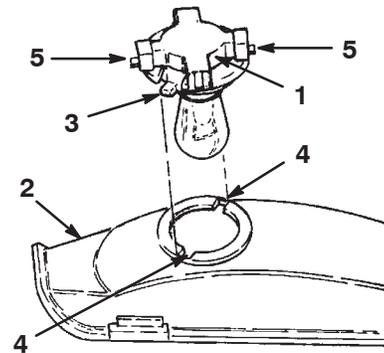

Figure 31
3. Rotate the bulb holder 1/4 turn counterclockwise and remove it from the reflector (Fig. 31).
4. Align the tabs on the bulb holder (Fig. 31) with the slots in the reflector, insert the bulb holder into the reflector, and rotate it 1/4 turn clockwise until it stops.